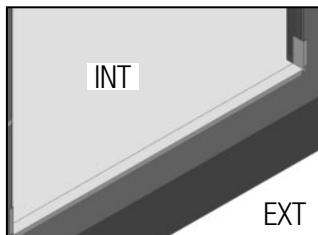

FIG. 6
- D) Apply sill flashing to the rough opening. (Fig. 6)